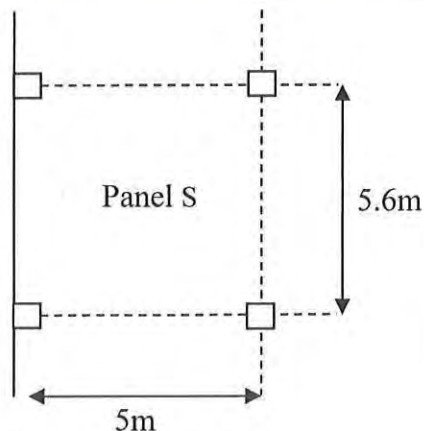

Figure 1. Panel of flat slab
- a. A flat slab panel of a residential building (live load 2 kN/m^2) is shown in **Figure 1**. The floor carries 3 kN/m^2 dead load due to random wall and floor finishes. Thickness of the slab should be based on deflection and punching requirements of code. The concrete strength (f_c') could be used as 24 N/mm^2 . Column size is $600 \text{ mm} \times 600 \text{ mm}$. Positive and negative moment coefficients of the panel are 0.35 and 0.65, respectively. Apply the concept to design the slab for **long span** only.